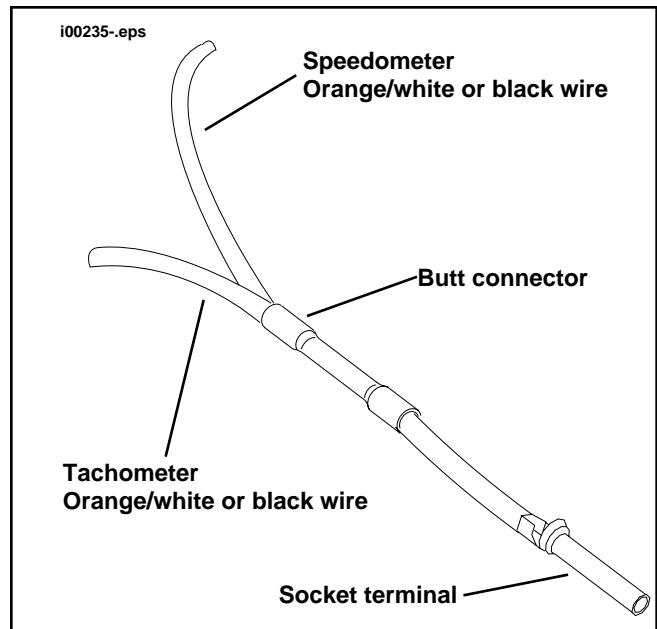

Figure 6. Connect Speedometer and Tachometer Wires
- 8c. See Figures 6 and 2. Use one of the butt connectors from the kit and connect the ground leads as shown. Refer to "SEALED BUTT CONNECTORS" in the appropriate Service Manual for complete procedure.
8b. See Figures 6 and 2. Use one of the butt connectors from the kit and connect the ground leads as shown. Refer to "SEALED BUTT CONNECTORS" in the appropriate Service Manual for complete procedure.
8c. See Figures 6 and 2. Use one of the butt connectors from the kit and connect the ground leads as shown. Refer to "SEALED BUTT CONNECTORS" in the appropriate Service Manual for complete procedure.